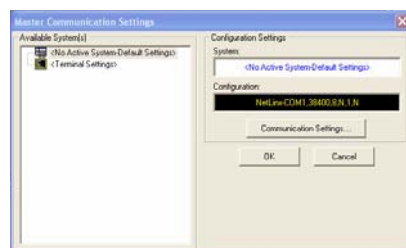

FIG. 40 Master Communications Settings dialog
- In NetLinx Studio, select **Settings > Master Communication Settings** from the *Main* menu to open the *Master Communication Settings* dialog (FIG. 40).